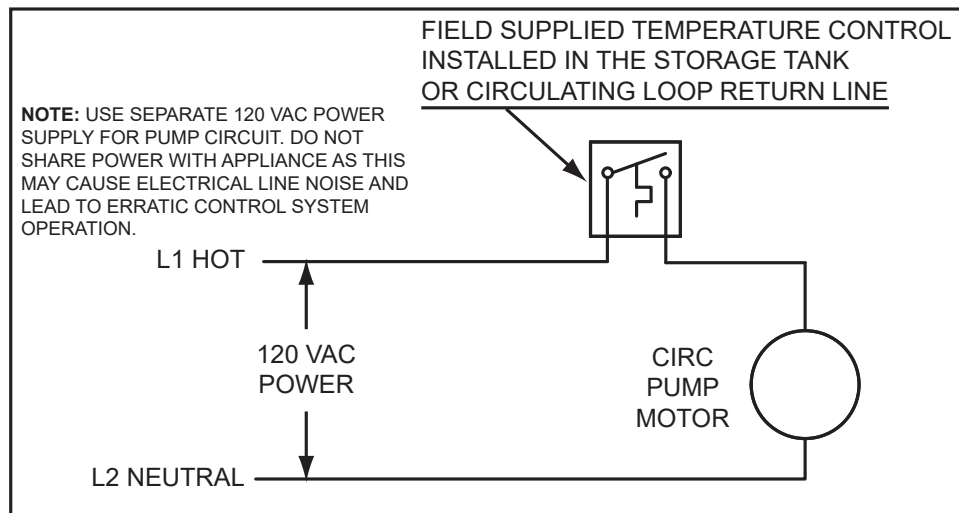

Figure 83. Recirculating Loop with Storage Tank or Building Recirculation
6. If a pump is being installed between a water heater and storage tank or on a building recirculation loop wire according to *Figure 83* (page 99).
6. If a pump is being installed between a water heater and storage tank or on a building recirculation loop wire according to **Figure 83** (page 99).